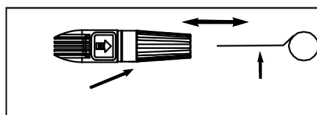

Fig. 2
- Use the cleaning kit provided, or any other type of pointed element such as an unfolded paper clip to clean the nozzle. Insert the wire into the nozzle hole and move back and forth until debris is dislodged. (See Figure 2).